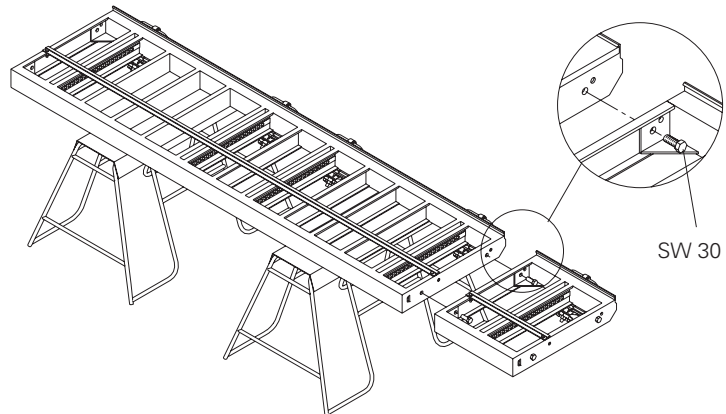

Fig. 2b
2. Bolt column frames together according to the required length (SW 30). Fig.2b